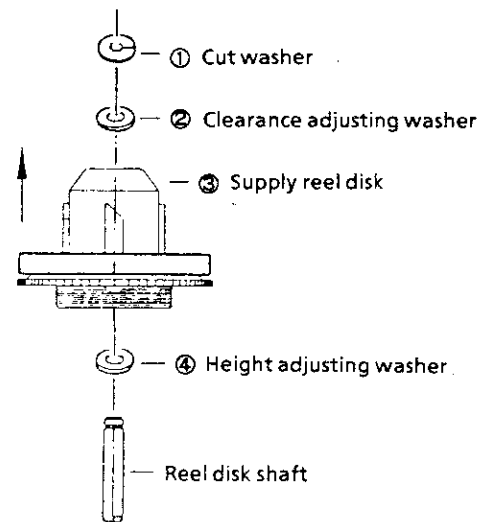

Figure2-4
- 1) Remove the cut washer ①.
- 2) Remove the clearance adjusting washer ②.
- 3) Pull off the supply reel disk ③ upwards, and replace it.
- 4) Remove the height adjusting washer ④ and clean it. (See Fig. 2-4)